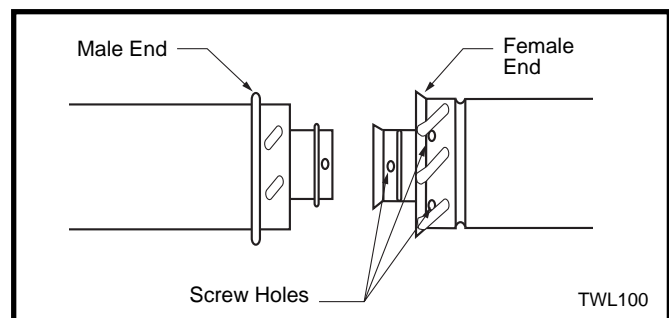

Fig. 17 Twist-Lock pipe joints.
To join twist lock pipes together, simply align the beads of the male end with the grooves of the female end, twisting the pipe until the flange on the female end contacts external flange on the male end. It is recommended that you secure the joints with three (3) sheet metal screws, however, this is not mandatory with twist lock pipe. (Fig. 17)